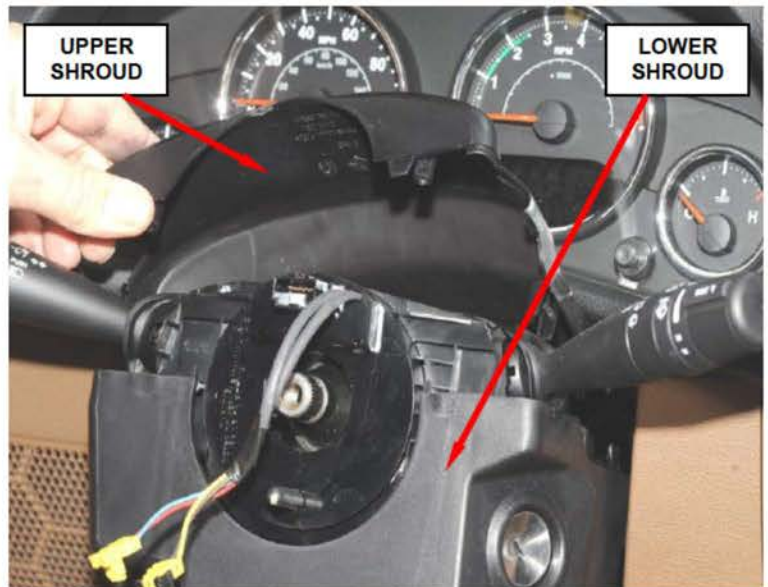

Figure 3 – Upper and Lower Steering Column Shrouds
8. Remove and save the upper and lower steering column shrouds from the steering column (Figure 3).
22. Install the upper and lower steering column shrouds onto the steering column (Figure 3).